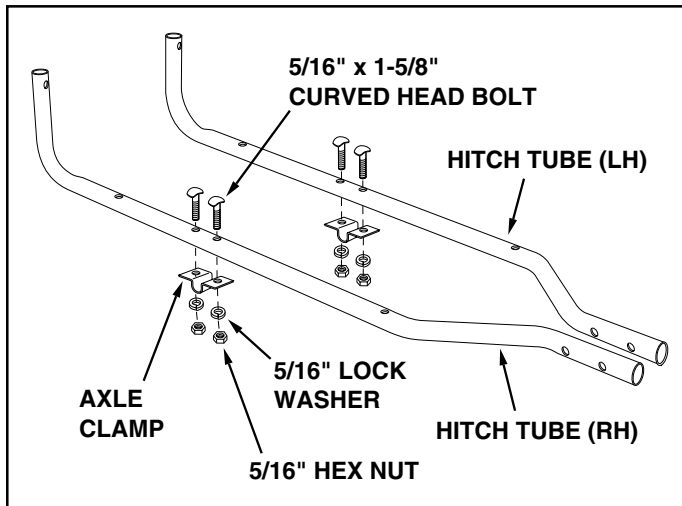
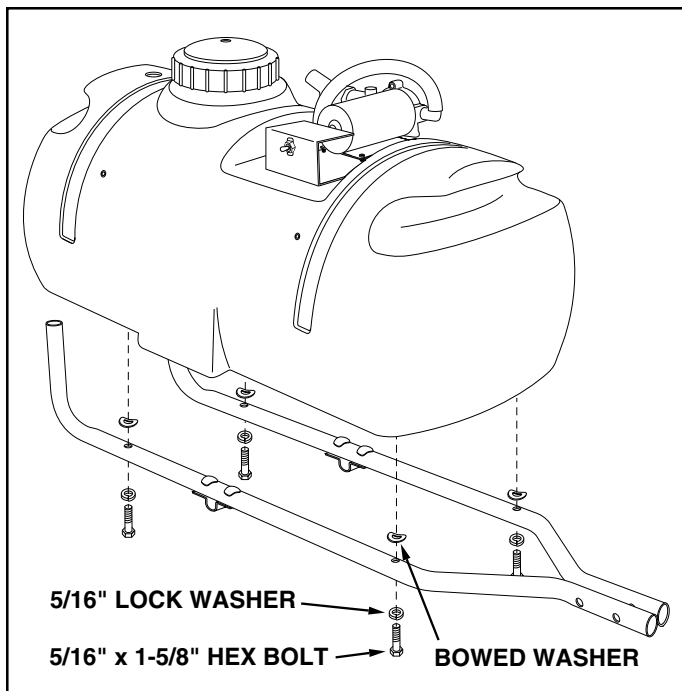

FIGURE 1
FIGURE 2
Your sprayer carton contains parts as shown in figure 1. The hardware package contains parts as shown in figure 2. Identify all parts and layout as shown in figures 1 and 2.
2. Assemble the axle clamps to the hitch tubes using four curved head bolts, 5/16" lock washers and 5/16" hex nuts. **Do not tighten yet.** See figure 1.
3. Assemble the hitch tubes to the tank using four 5/16" x 1-5/8" hex bolts, 5/16" lock washers and bowed washers. Place the bowed washers between the tank and the hitch tubes. **Do not tighten yet.** See figure 2.
- Tighten** the four bolts which fasten the hitch tubes to the bottom of the tank. See figure 2.
Tighten the four hex nuts which fasten the axle brackets to the hitch tubes. See figure 1.